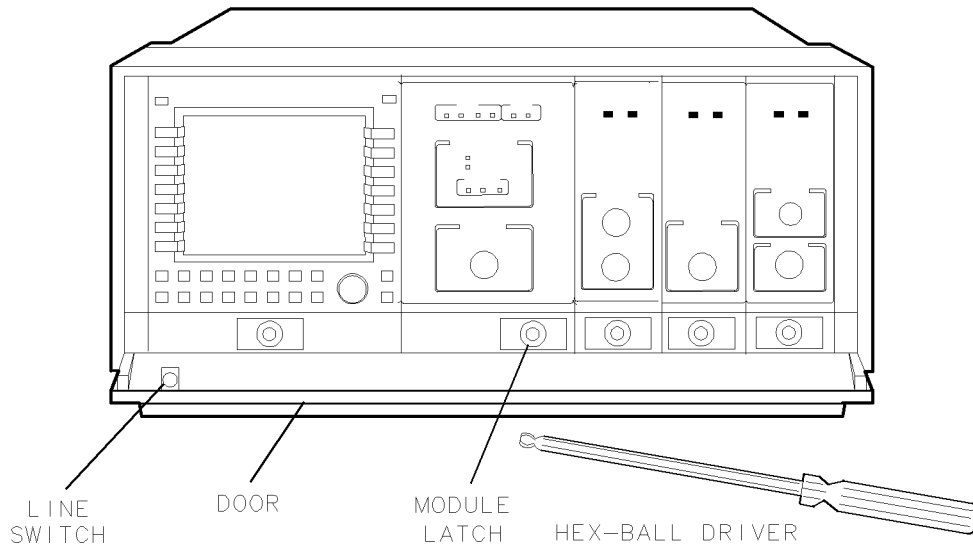

Figure 1. HP 70900A Local Oscillator Removal
1. Set the mainframe LINE switch to OFF. See Figure 1.
When the controller board assembly is changed, the serial number of the HP 70900A Local Oscillator must be reloaded into the module RAM. The serial number is on a label attached to the front frame near the hex-nut latch. With the instrument LINE switch set to OFF, open the front-panel door to view the serial number. See Figure 1 at the beginning of this document.